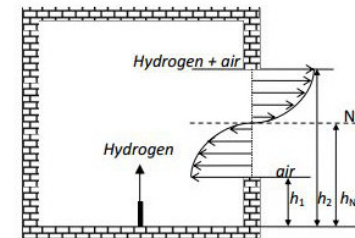

Figure 1. Flow velocity through the vent for a case when neutral plane is between the lower edge and half height of the vent.
Figure 1 – Dimensionless (conservative) correlation for hydrogen jet flames (in form also shown in figure “X” denotes the similarity group $(p_1/p_1) \cdot (U_0/c_0)^2$ (Malik & Buffers, 2010)
The neutral plane (NP) is a horizontal plane where pressure inside and outside an enclosure are equal. In general case of passive ventilation of the enclosure with release of gas lighter than air, the neutral plane is located at or below the half height of the vent for steady-state conditions. Below NP air enters the enclosure and above NP lighter hydrogen-air mixture exits the enclosure (Fig. 1, left).